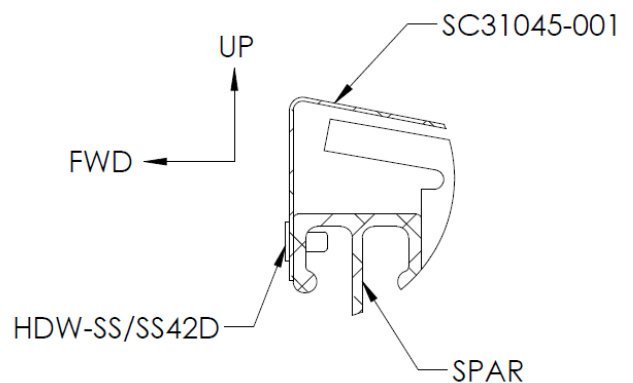

Figure 4 – Extensions Skin
12. Disconnect the supply and fuel and fuel sight gauge lines from fuel tank. Remove all (4) nipple fittings from tank. Remove the tank ground wire from the inboard rib. Remove the fuel tank by loosening the straps holding the tank in place and then lifting the tank out.
14. With the bay open, center SC31045-001 along the aft spar making sure that the skin extends to the edge of both ribs, see Figure 4. Clamp the extension skin to the aft spar in the inboard and outboard corners to secure it while drilling.
15. Mark locations for five equally (3.6") spaced Ø.129 holes on the leading edge face of the skin extension. Using a drill stop set for no more than 0.25" penetration, drill the holes through the skin and ledge of spar using a #30 drill and install (5) HDW-SS/SS42D as shown in Figure 4.